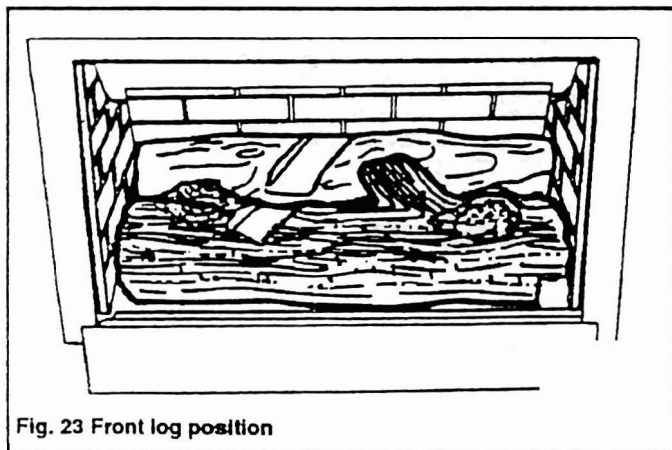

Fig. 23 Front log position
- 15.4 Place the front log on the retaining cradles between the rear and front burner tubes. Center the log so that the gap to the side wall is the same at each side (see figure 23).